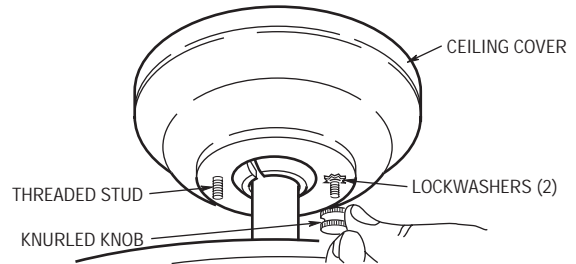

Figure 11
- 13. Lift the ceiling cover up to the threaded studs and turn until studs protrude through the holes in the ceiling cover (Figure 11).
- 14. Secure the ceiling cover in place by sliding lockwashers over the threaded studs and installing the two knurled knobs (supplied) (Figure 11). Tighten the knurled knobs securely until the ceiling cover fits snugly against the ceiling.